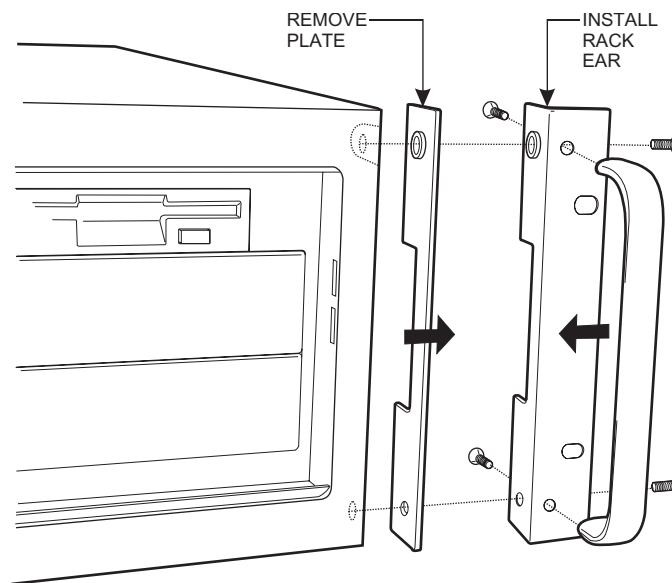

Figure 1. Rack Ear Installation
1. Attach the handles to the rack ears using the four flat head screws provided. Refer to Figure 1.
2. Remove the top screw and bottom screw from the left and right side of the DVR. Remove the side plates. Refer to Figure 1.
3. Use the screws removed from the sides of the DVR and attach the rack ears to the unit. Refer to Figure 1.